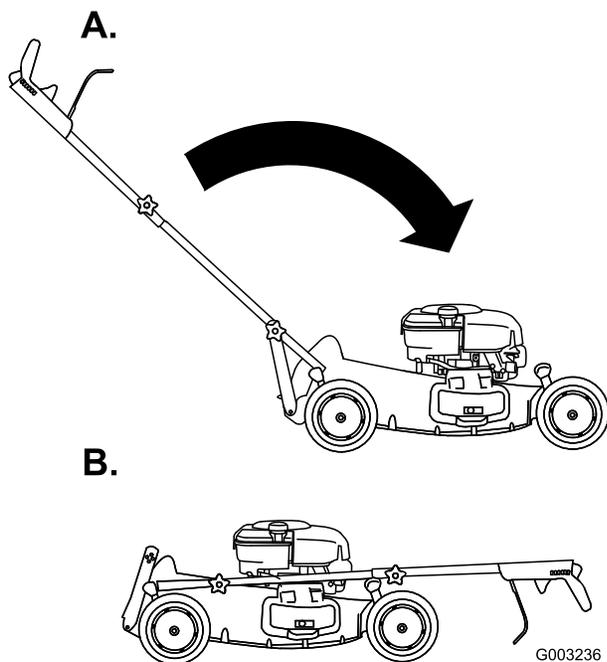

Figure 44
3. Rotate the handle forward (Figure 44).